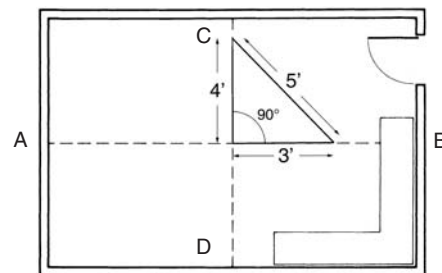

Fig. 7 - Square layout.
- Find the center of the line and snap a second chalk line at a right angle; use the 3’, 4’, 5’ method to form a right angle (Fig. 7).